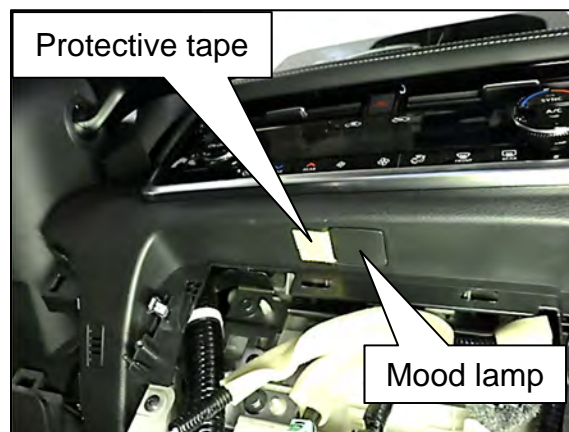

Figure 68
47. Apply protective tape to the center instrument lower panel to protect it from damage, as shown in Figure 68.